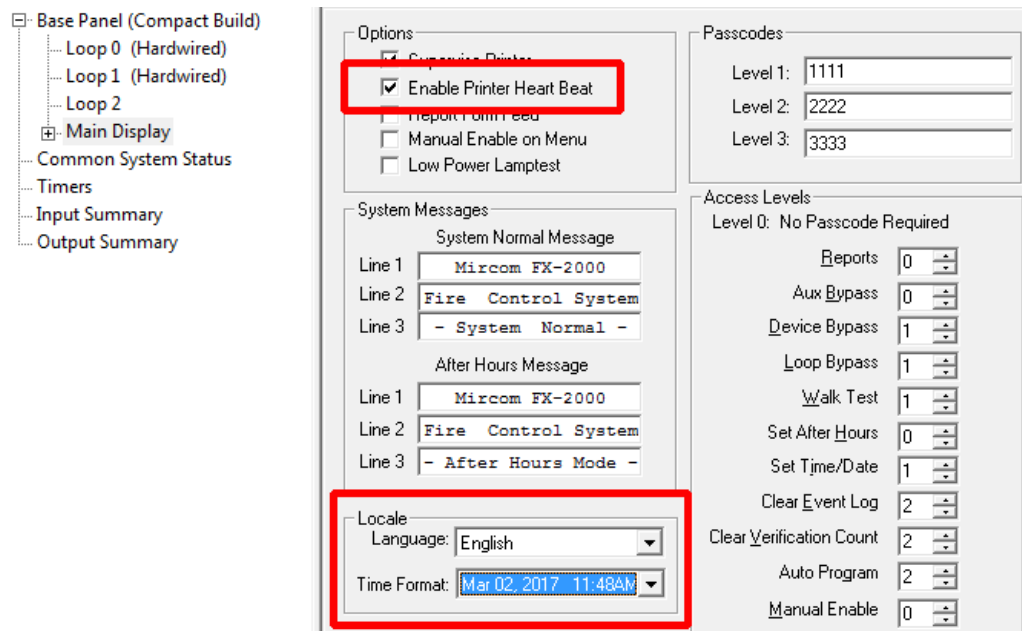

Figure 15 FX-2000 Config Utility
6. In the **Time Format** menu, select the date in the format **Month Day, Year hour:minute** as shown in Figure 15.